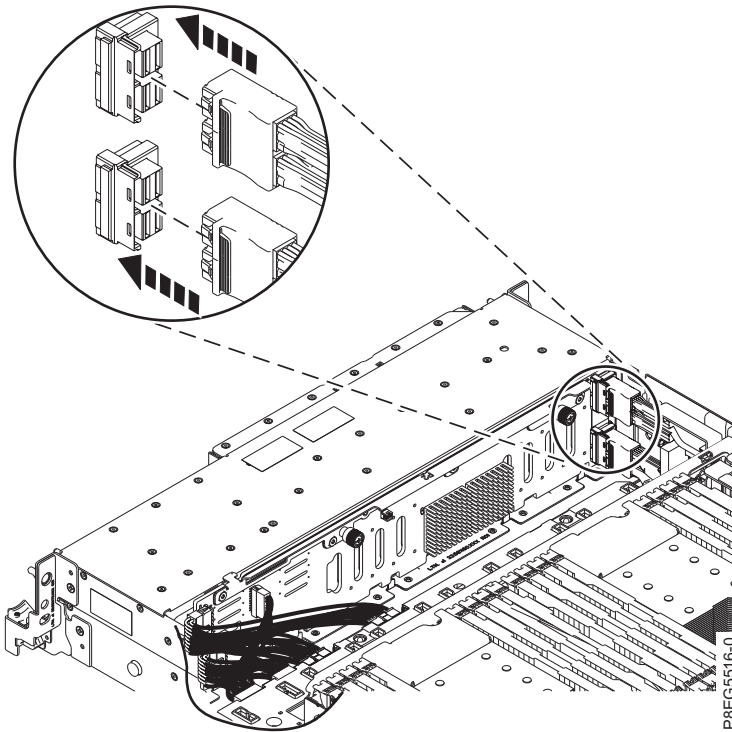

Figure 21. Reconnecting the front SAS cables
7. Reconnect the front SAS cable to the disk drive backplane as shown in Figure 21. Push the connector in until the latch clicks.